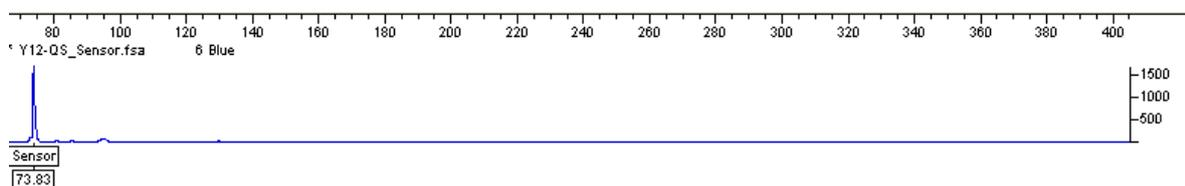

Figure 3. Electropherogram of the 6-FAM–labeled PCR control (QS) fragment. Fragment length in base pairs, signal intensities in peak height.
As previously mentioned, the Investigator Argus Y-12 QS Kit contains an internal PCR control (Quality Sensor “QS”), which provides information about the efficiency of the PCR and the presence of PCR inhibitors. A 6-FAM–labeled 74 bp fragment is amplified independently of the DNA. The PCR control assay without DNA shows only the QS fragment (Figure 3) and indicates successful polymerase chain reaction.
The Investigator Argus Y-12 QS Kit contains an internal PCR check (QS), which provides information about PCR efficiency and presence of PCR inhibitors (Figure 3, page 53). Complete QS failure indicates total inhibition of the PCR or errors in the assay. If the sensor signal is amplified in presence of DNA either in the negative control or in the positive control, the PCR is not inhibited. Samples that contain sufficient DNA and no inhibiting substances result in a DNA profile, according to the kit and the sensor fragment. Reduced sensor peak heights in forensic samples indicate partial PCR inhibition. If only the QS is amplified, the sample contains very little, only female, or degraded DNA.